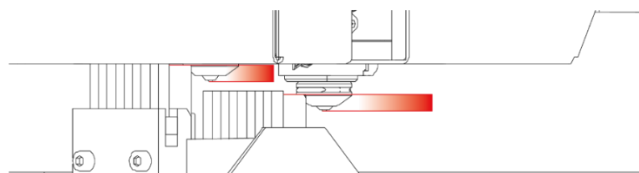

Fig. 13 Incorrectly adjusted cleaning station slats relative to the module nozzles – too short distance
2. The distance between the nozzle and the cleaning station bar is too short and the slat is in excessive contact with the nozzle cover (Fig. 13).
- in the case shown in Fig. 13, the cleaning station should be lowered,